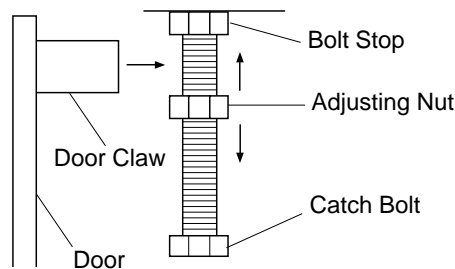

Figure 13 - Catch Bolt and Door Claw Orientation
11. Install door catch bolt (M8 x 1.25-55mm with two M8 hex nuts) into threaded hole on stove body (see Figure 9, page 5). Use an adjustable wrench or a 12mm socket. The catch bolt has two hex nuts attached to it (see Figure 13). The top nut is a bolt stop and the bottom nut is for door leveling adjustment.